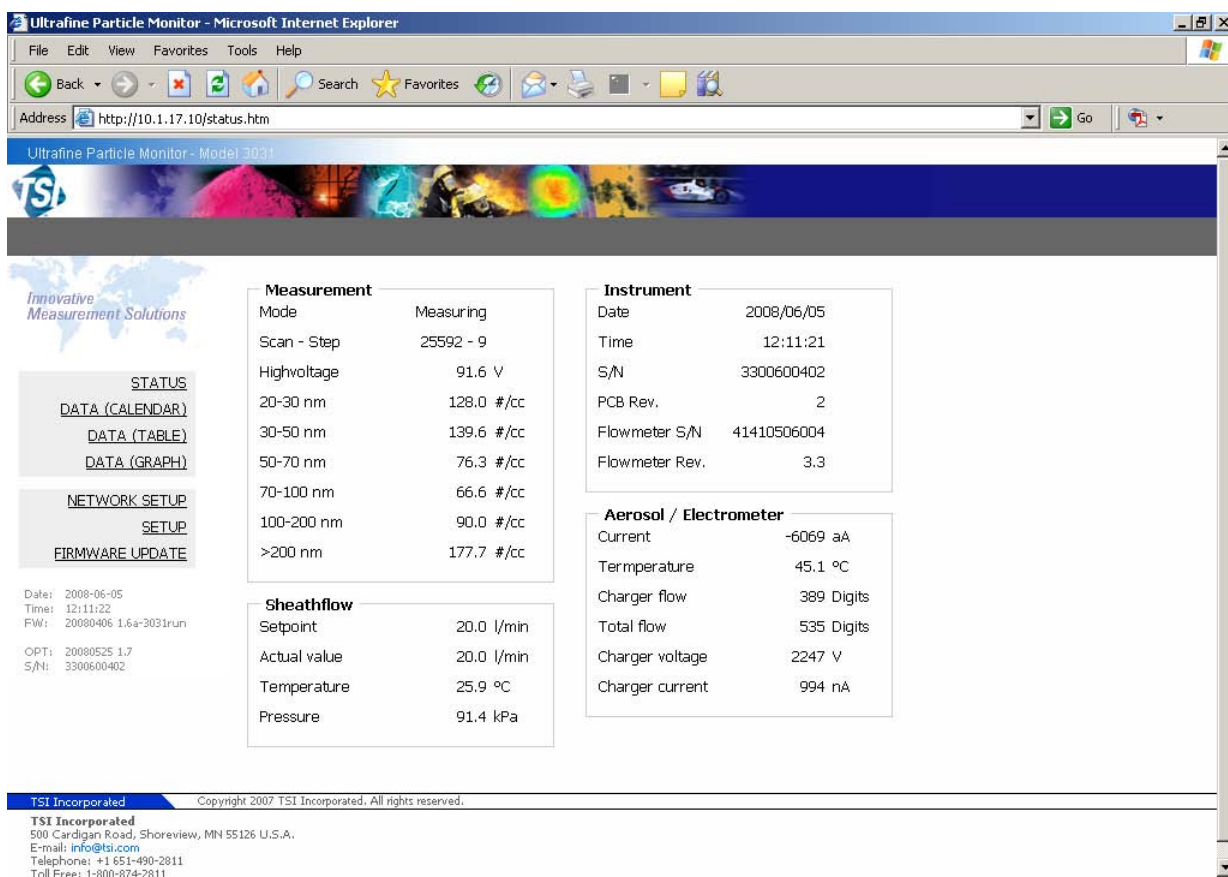

Figure 4-8
6. Access is password restricted (username “user”, password “ufp”) by default. After this the status screen will appear (Figure 4-8). The menus on the left allow access to status and data in a variety of formats. The lower setup menu is accessible only by admin users (see “Advanced Network Techniques” below).
8. After power down, try steps 5 and 6 again. If the computer connects successfully, you should see a screen like Figure 4-8.